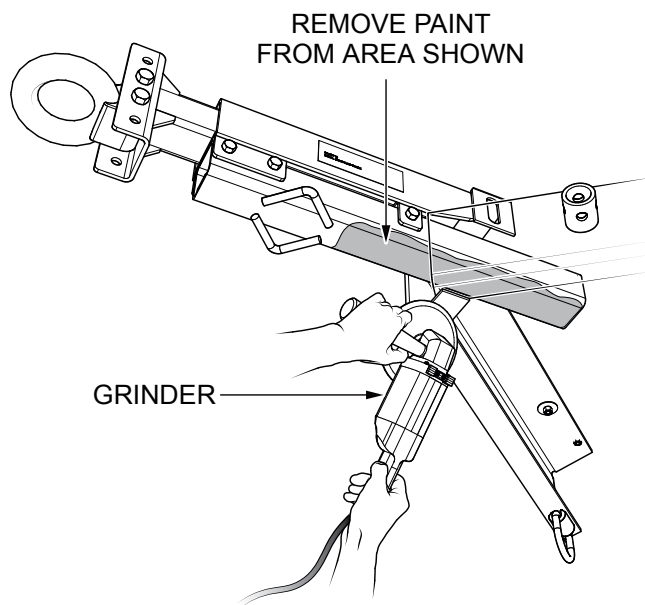

Figure 3. Paint Removal
1. Using a grinder (Figure 3), **remove paint** from area to be heated during welding.